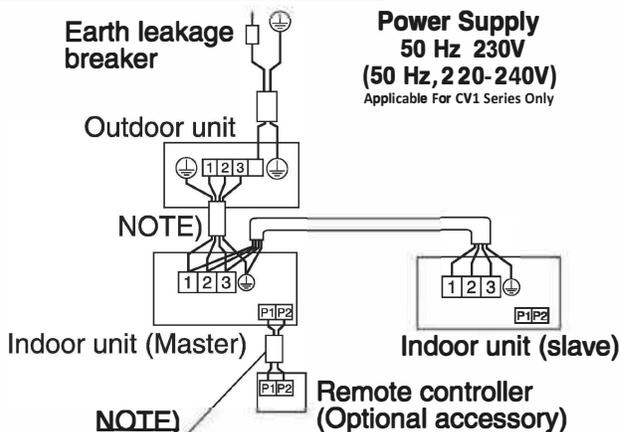

Fig. 30
- **Simultaneous operation system:** 1 remote controller controls 2 indoor unit (2 indoor units operates equally). (Refer to Fig.30)
- (1) Remove the control box lid. (See “8. ELECTRIC WIRING WORK”.)
- (2) Cross-wire the terminal block for remote controller (P₁, P₂) inside the control box. (There is no polarity.) (Refer to Fig. 30 and Table 5)